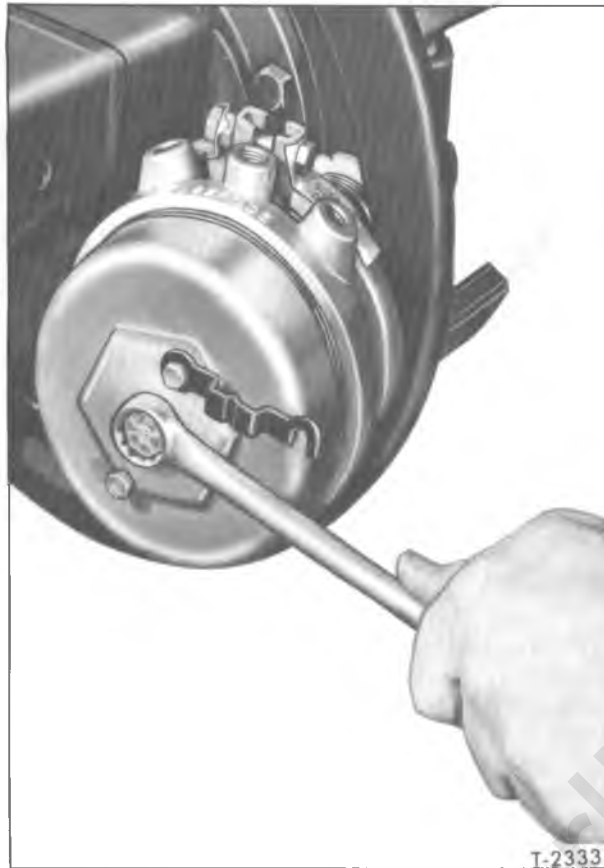

Figure 42—Compressing "Fail-Safe" Power Spring
10. With air in outer chambers, turn release bolt at each chamber (if "Fail-Safe") counterclockwise as far as it will go (approximately 18 turns - see fig. 42). Brakes are now in operating condition, either for service brakes or parking.
In case of complete pressure loss, and pressure in the protected tank is depleted, brakes will remain applied until air pressure is restored. If necessary to move the vehicle before air pressure can be restored, brakes can be released by turning the release bolts clockwise as far as possible (approximately 18 turns) to compress the springs, as shown in figure 42. (This must be done at all "Fail-Safe" chambers at each wheel.) After air pressure has been restored, service brakes will be operative immediately; however, the parking brake will remain inoperative until the spring release bolts are backed out (counterclockwise) as far as possible to release the springs. Push parking brake valve knob in to released position to admit air pressure into the parking brake chambers to hold springs compressed while turning the release bolts.
1. With air pressure in parking brake chamber (brake released), loosen release bolt spring lock and swing to one side; then turn release bolt clockwise as far as it will go (approx. 18 turns) to compress the power spring. Refer to figure 42.
7. Turn release bolt counterclockwise as far as possible (approx. 18 turns) to release spring (see fig. 42). This will leave the parking brake chamber in operating condition.